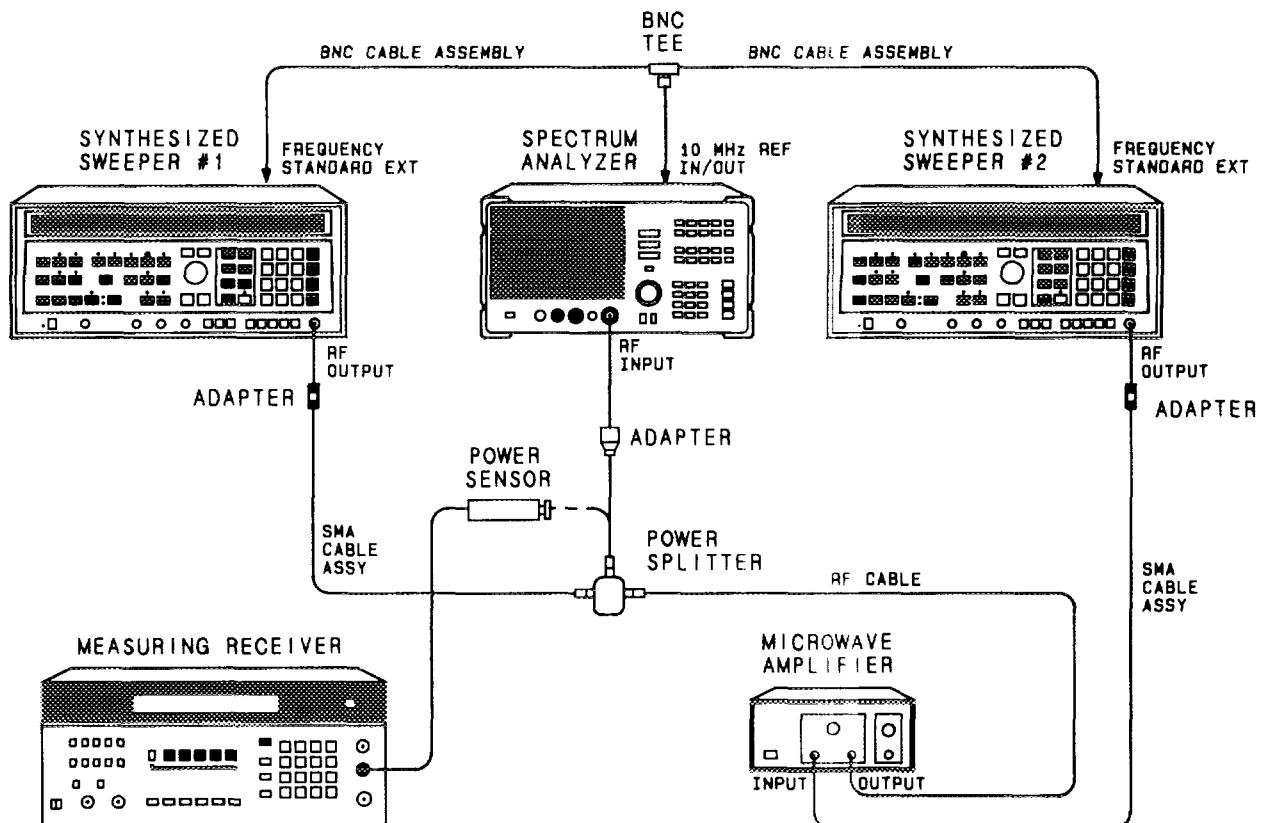

Figure 3-21. Gain Compression Test Setup
2. Connect the equipment as shown in Figure 3-21, with the output of the power splitter connected to the HP 8485A Power Sensor.